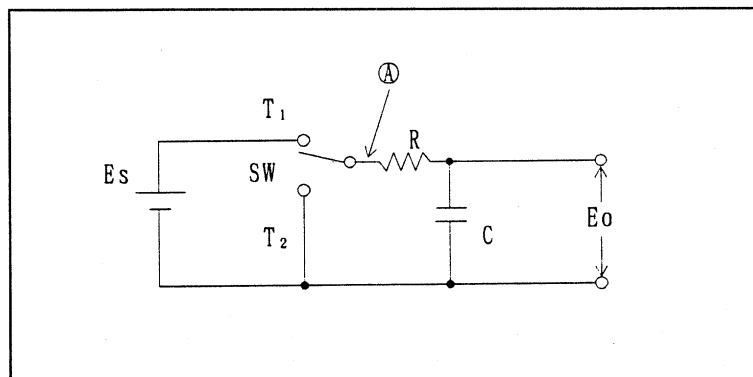
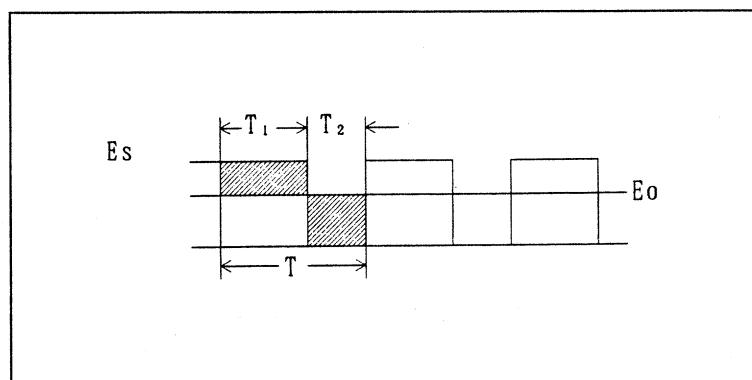

Figure 6-3 Voltage Dividing by Time Division
Figure 6-4 Voltage Waveforms at Point A
Figure 6-3 shows the time-division voltage divider system that the Generator uses. When the switch (SW) is turned on or off with times T_1 and T_2 in this figure, the voltage waveforms at point A can appear as shown in Figure 6-4.